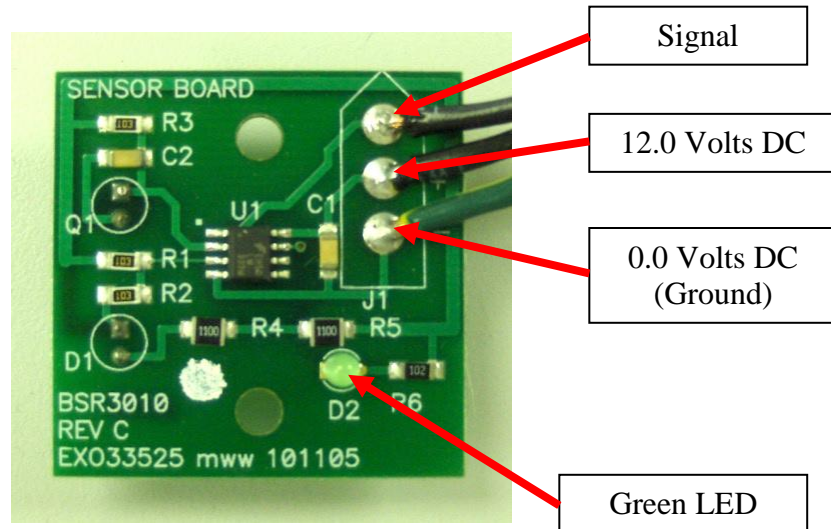

Fig. 1
1. The green LED's on both sensor boards should be "ON"? If not, check voltages on sensor boards as shown in Fig. 1.
- Supply voltage missing or improperly set. Check voltages on the Power Supply (see **Fig. 1** above) for 5.0 Volts DC, and 12.0 Volts DC. If the 12.0 Volts DC is higher than 13.0 Volts DC, you will need to adjust it via **+V1 ADJ** on the power supply. If the game still continues to shut down, then call BSR Tech Support for further assistance. **1-386-677-0761**
- Check for 12.0 Volts DC on the power supply. Must not be over 13.0 Volts DC. Adjust if necessary. (See Fig.1 above)
- Check voltages on the main board (see Fig. 1) for 5.0 Volts DC, and 12.0 Volts DC. If the 12.0 Volts DC is higher than 13.0 Volts DC, you will need to adjust it.